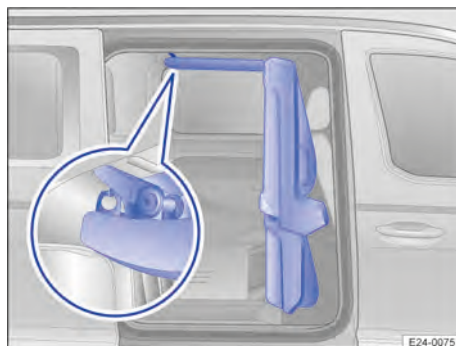

Fig. 86 Flexible partition in set up position.
3. Press the upper rear part of the partition wall upwards with the palm of your hand until the holder → Fig. 86 (close-up) engages with a click.
1. Pull the upper rear part of the partition downwards until the holder is released → Fig. 86 (close-up).